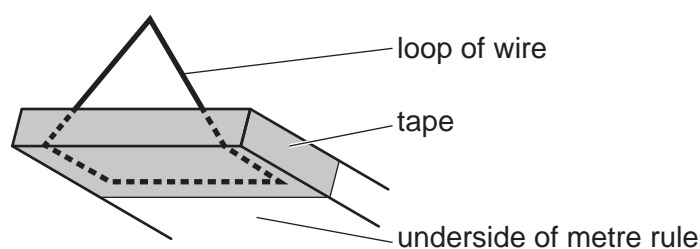

Fig. 3.1
1. A loop of wire is to be taped securely to each end of the metre rule as shown in Fig. 3.1 so that the metre rule can be suspended, with its scale facing upwards. Thin string is a suitable alternative.